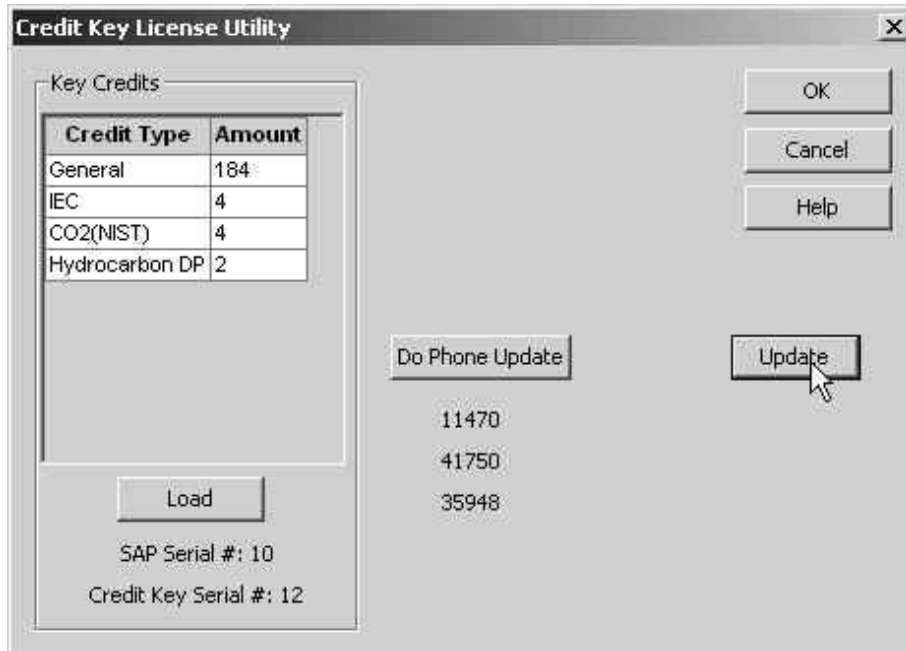

Figure 78 Application Credit Verification Codes
10. Click the **Update** button, three more codes will be displayed directly beneath the **Do Phone Update** button (see Figure 78).